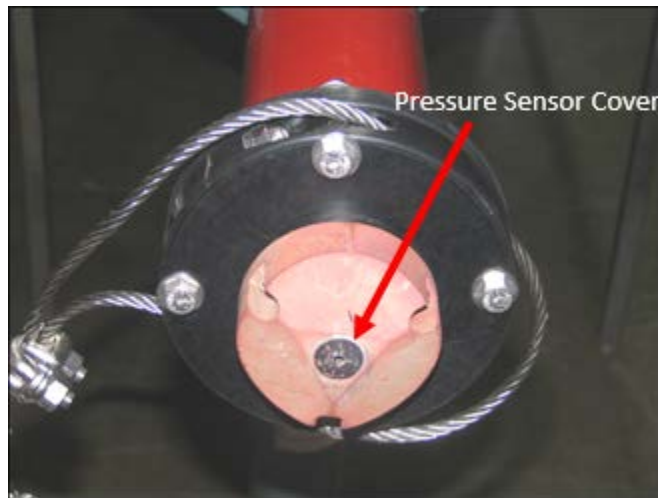

Figure 11: Secure Aquadopp in Tube
- a. Do Not Paint Over Pressure Sensor Cover (Figure 11)